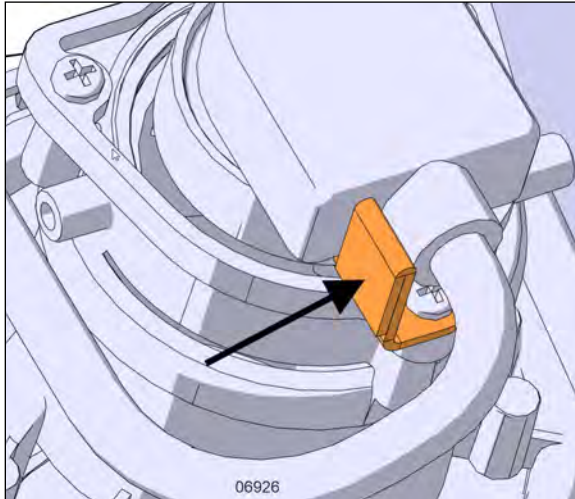

FIGURE 88: CONNECTOR STOPPER
4. Install the new bulb by reversing the previous steps and make sure the connector stopper is in place (Figure 88). **Make sure the connector is properly connected.**